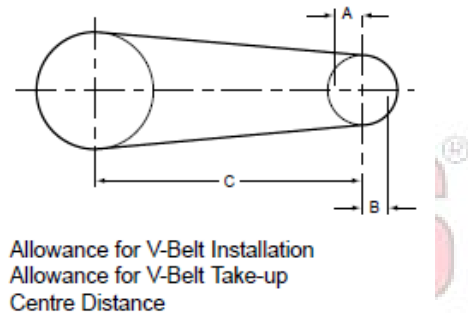

Figure 3.4 V-Belt Centre-Distance Determination
b. When positioning the motor relative to the pump shaft for a v-belt drive, consider belt tightening according to Table 3.1. Check your General Arrangement drawing for any special requirements. The dimensions in this table under SPA, SPB, and SPC represent the minimum distances below the standard center distance for belt installation (refer to Figure 3.4). The dimensions under "minimum take-up allowance" indicate the minimum distances to allow for belt-tightening.
d-3. Determine installation and take-up allowance dimensions by referring to Table 3-1 for the appropriate belt pitch length. Allow for moving the centers closer together by the amount specified in Table 3.1 to facilitate belt installation without damage (refer to Figure 3.4). Account for center adjustment based on the Minimum Take-Up Allowance in Table 3.1 to compensate for manufacturing tolerance, possible stretch, and wear of belts during initial run-in and operation.